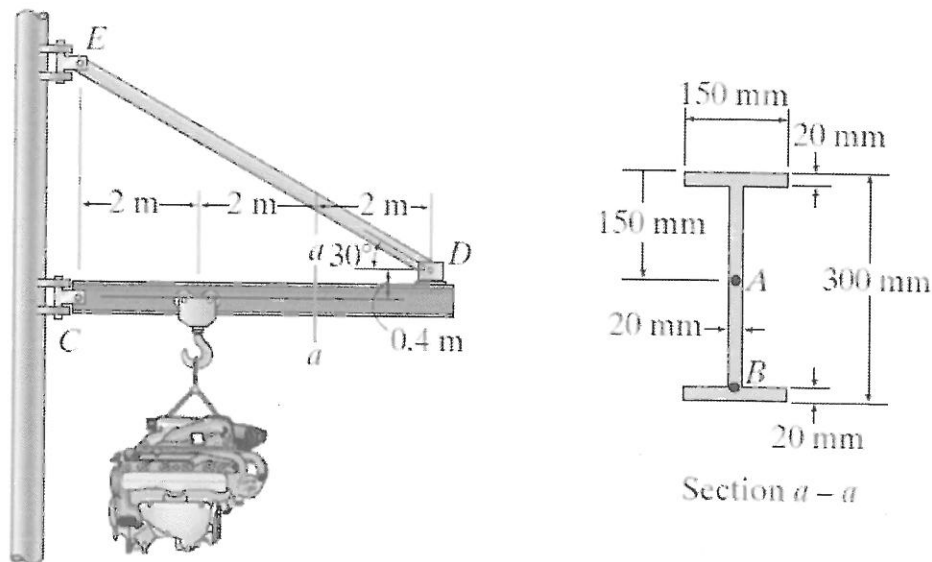

Figure 2: An engine suspension
- (a) The 500 kg engine is suspended from the jib crane at the position as shown in Figure 2. Determine the state of stress at point **B** on the cross section of the boom at section **a-a**. Note that point **B** is just above the bottom flange. (20 Marks)